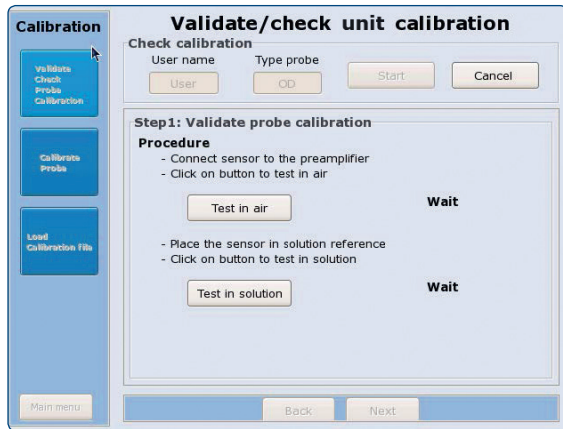

Figure 1: Testing the Pre-amplifier verification.
- Go to the Main Menu and enter the Calibration Menu. Select the Validation / Check Unit Calibration to start the Verification procedure (Figure 1).